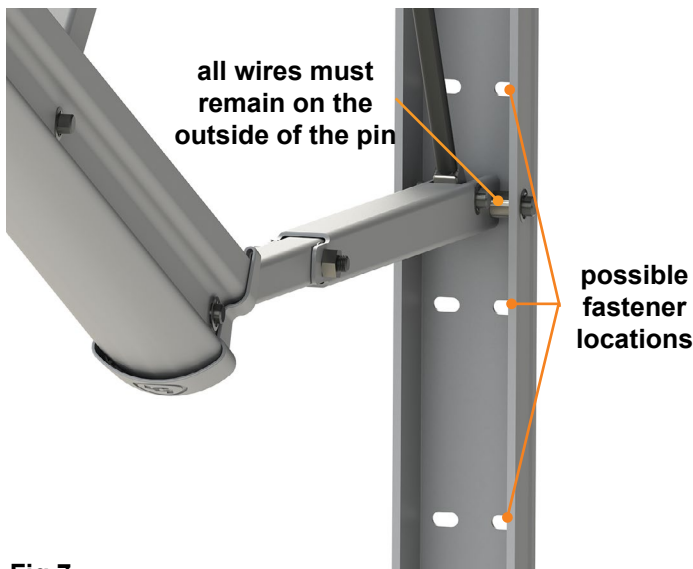
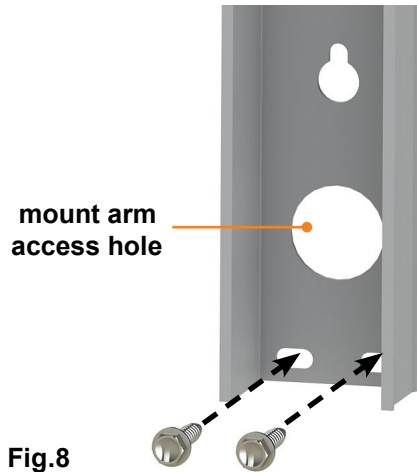

Fig.7
Fig.8
5. Finish the task of securing the mount arms. Make sure the awning assembly is square on the unit prior to completion. Use two #14 x 1 1/4" screws in one of the provided locations in the middle of the arm (**Fig.7**), and two #14 x 1 1/4" screws (**Fig. 8**) in the bottom of the arm.
9. Run the wires from the unit through the provided access hole in the mount arm (**Fig.8**).
NOTE: If top install, make sure all wires are always on the outside of the pin that secures the pitch arm to the mount arm. (**Fig.7**).